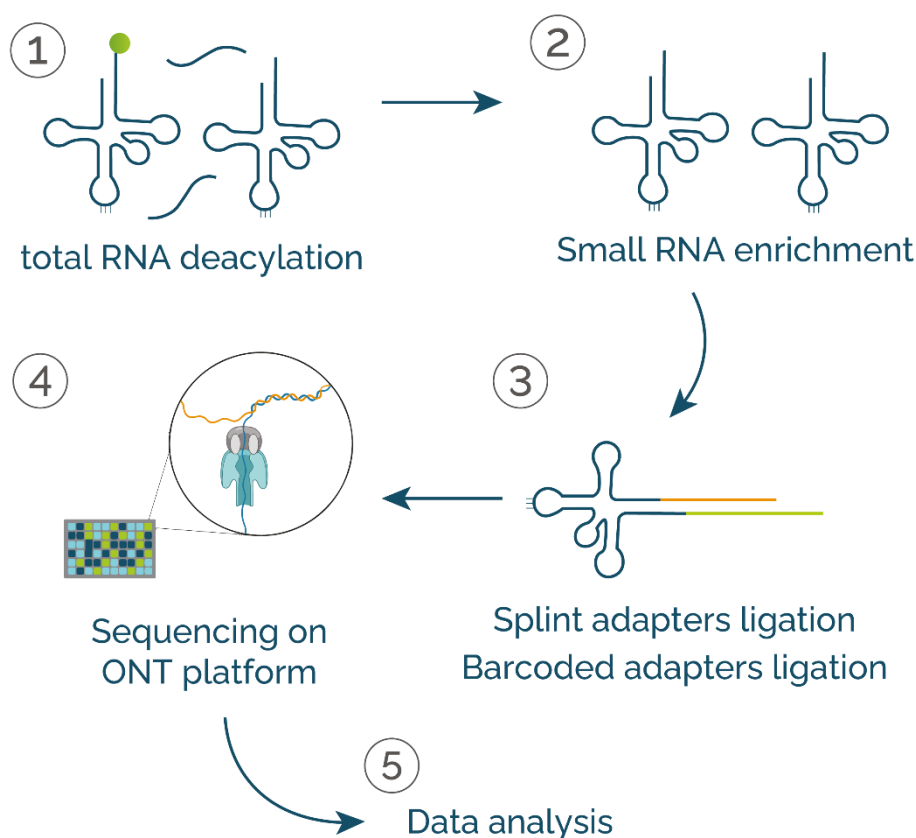

Figure 1. Simple overview of the nano-tRNAseq protocol.
The first step in nano-tRNAseq comprises deacylation (1) and small RNA enrichment from total RNA (2). Next, the tRNAs are bound with adaptors and subsequently to barcodes (3), allowing for multiplexing of up to 12 samples. The native tRNA is then sequenced on the Oxford Nanopore Technologies (ONT) platform (4). As tRNA is transversing the pore, each base generates an electrical current, which is converted into the tRNA sequence. After demultiplexing and data analysis (5), information on tRNA abundance, coverage and post-transcriptional chemical modifications are obtained (Figure 1).